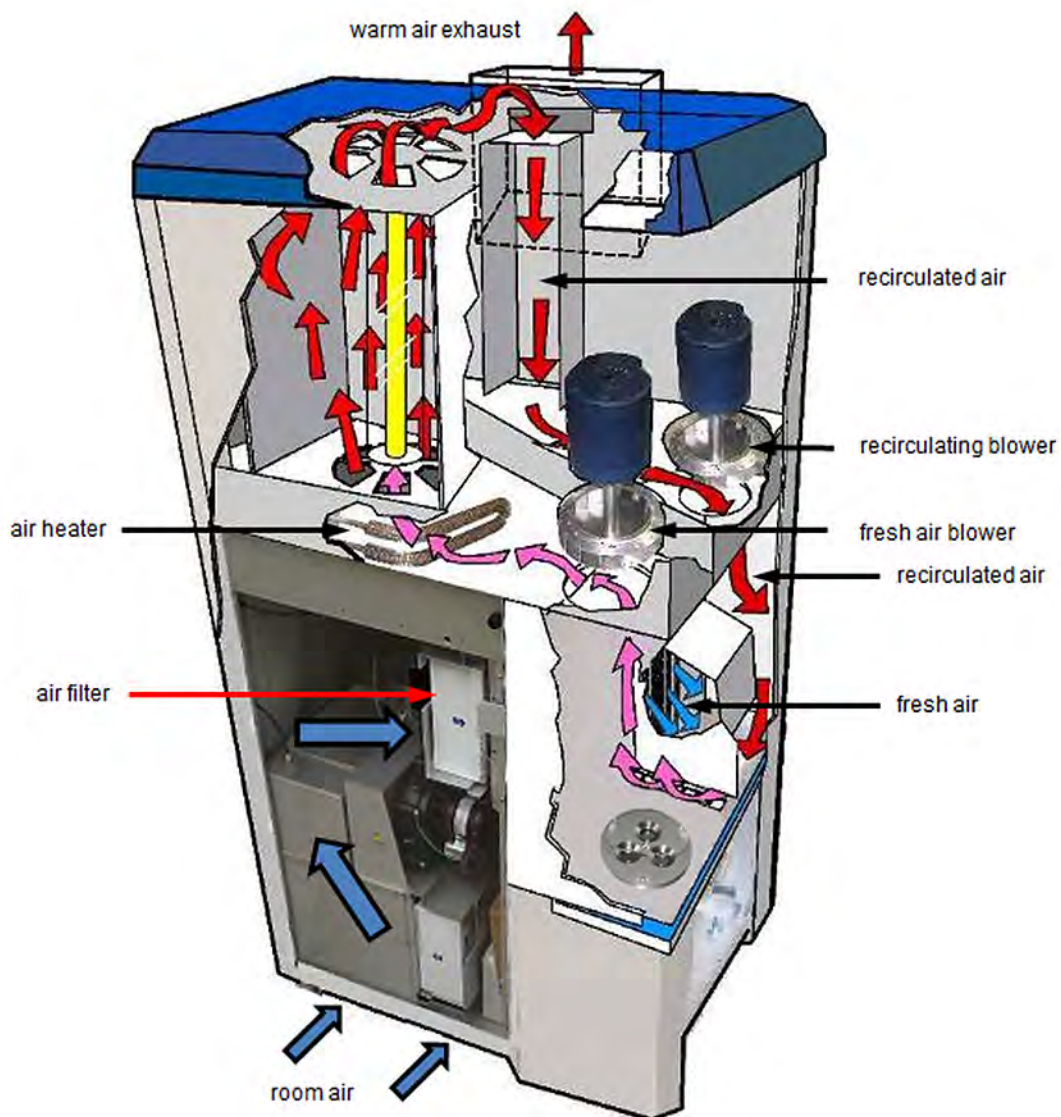

Figure 8.6a: Schematic showing the temperature control and air flow.
- Air is circulated through the Xe-2 to provide test chamber cooling and heating (Figure 8.6a).